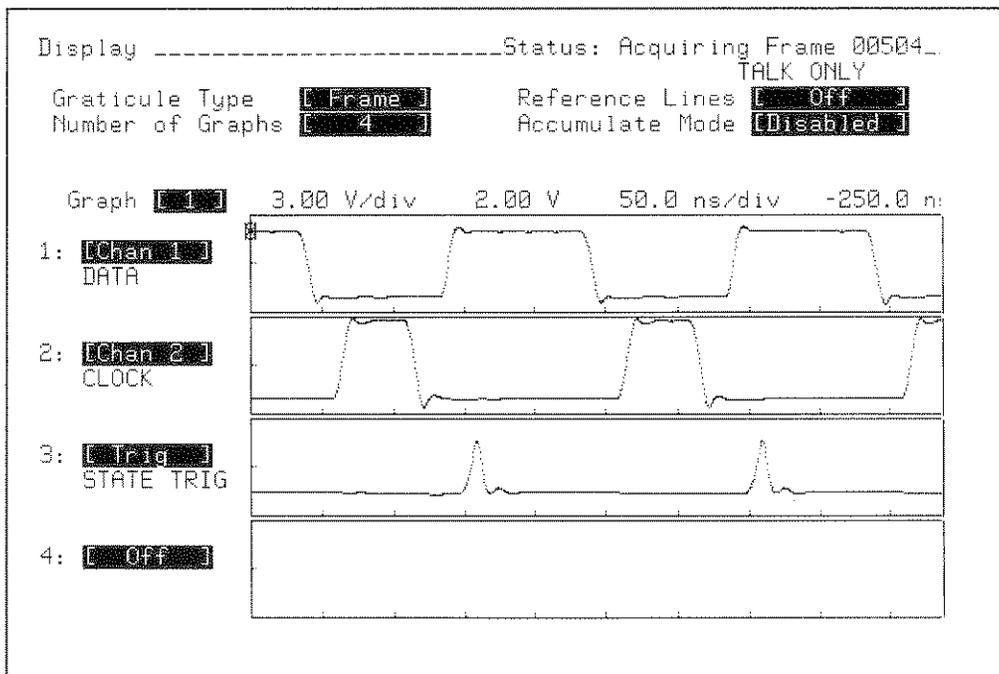

Figure 9-19. Display Configuration and Setup Test Waveforms
12. Configure the display as shown in figure 9-19. Observe the waveforms displayed on the 3 channels. They should appear similar to those shown in figure 9-19. If not, repeat steps 1 through 11.